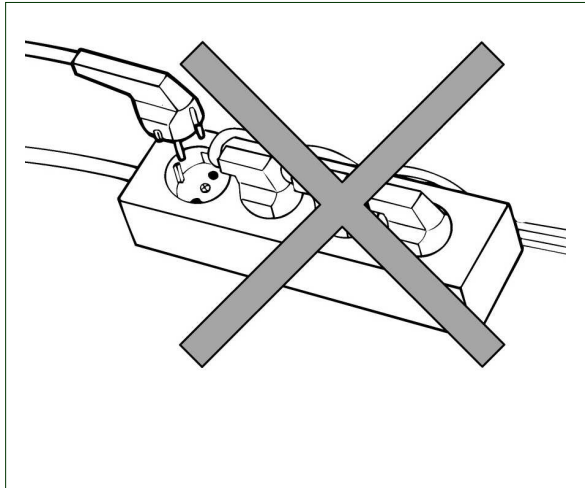

Fig. 10
*The cabinet must not be plugged into a multiple outlet power strip (see fig. 10).*